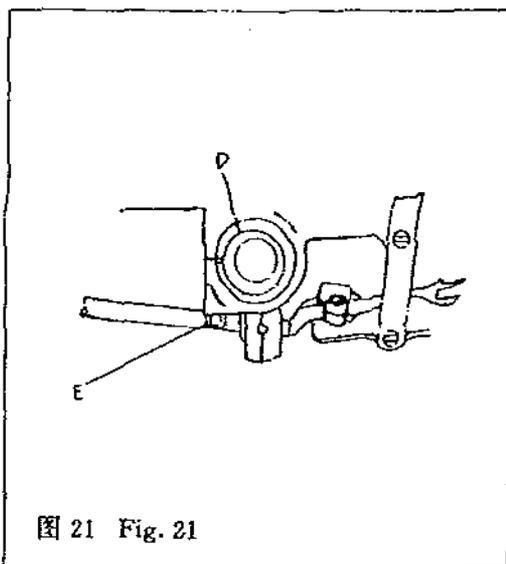

图 21 Fig. 21
①旋松紧固螺栓“E”，左右移动偏心支承套“D”，达到上述要求时，旋紧紧固螺栓“E”(图 21)。
①Loosen set bolt "E", move the eccentric supporting sleeve "D" rightward and leftward, and tighten the set bolt "E" (Fig. 21).
- ① 旋松紧固螺栓“E”(图 21), 周向转动偏心支承套“D”, 使钩线叉在右端时达到上述要求。
- ① Loosen set screw "E" (Fig. 21) and turn the eccentric supporting sleeve "D" so that when the thread hook is at the right end may comply with the above-said requirements.